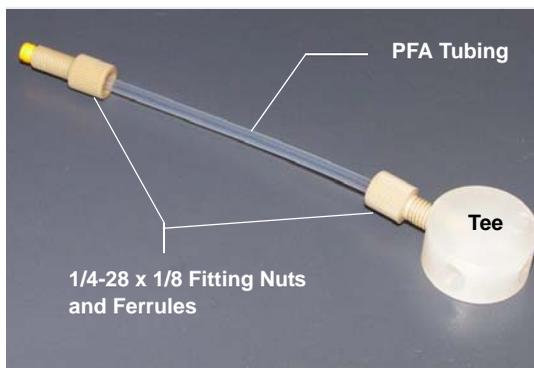

Figure B-17. Tee with Connector Tubing Attached
1. Connect the short piece of PFA tubing (P/N 052112) to the tee (see Figure B-17).